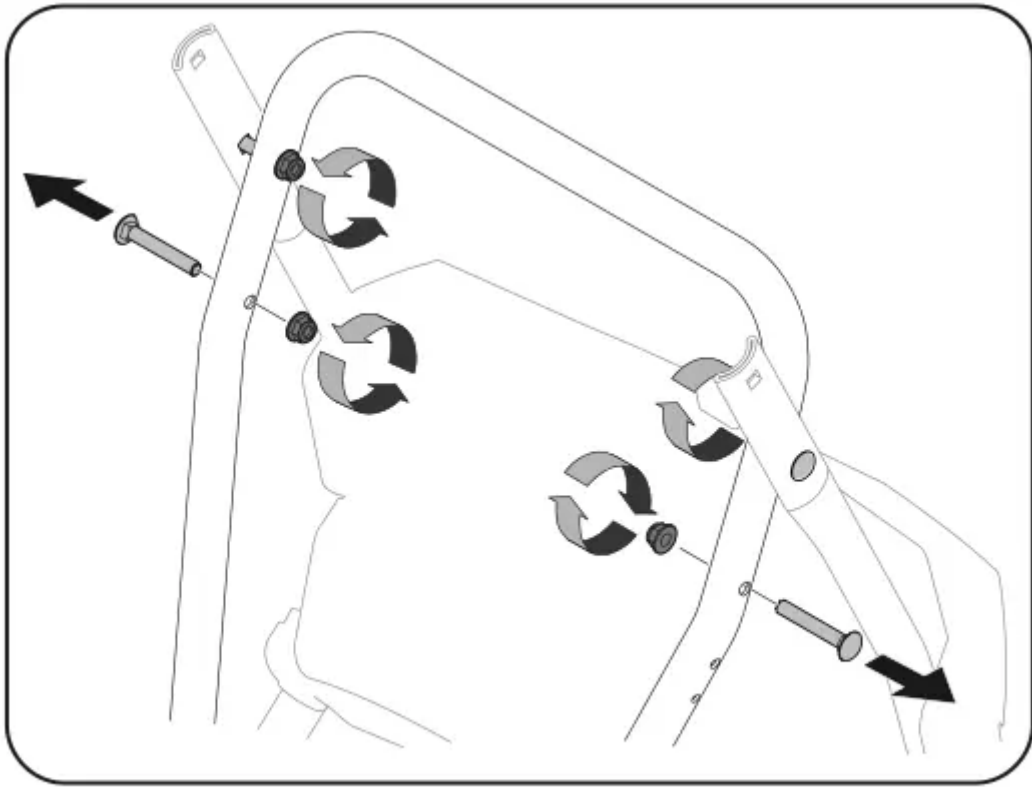

Figure 3
3. Loosen the top two lock nuts securing the upper and lower handle and remove the two carriage screws from the lower handle and set aside. See Figure 3 or Figure 4 for units with side supports.